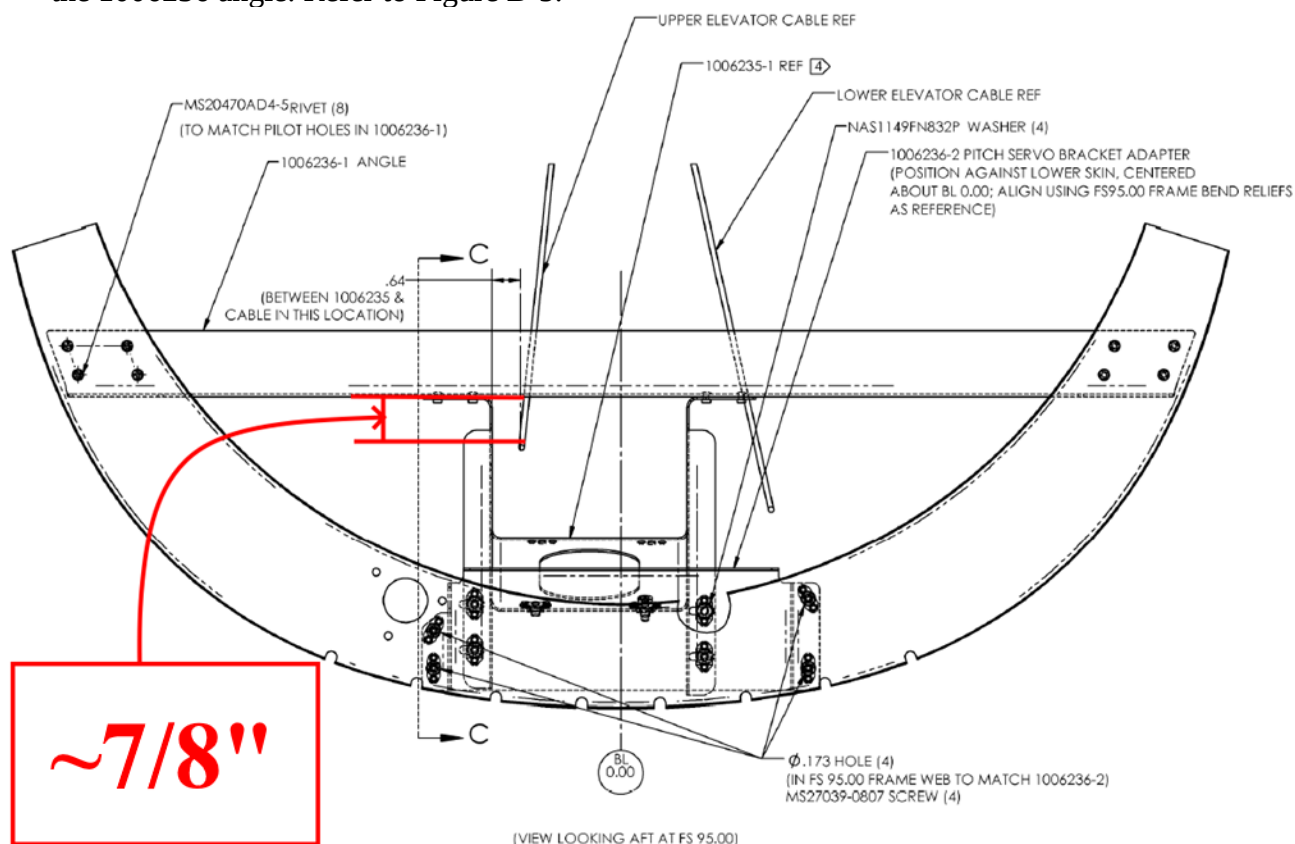

FIGURE B- 5 ANGLE TO UPPER PITCH CABLE CLEARANCE
5. Position the 1006236 angle such that the upper pitch cable is approximately 7/8" (0.875") below the 1006236 angle. Refer to Figure B-5.